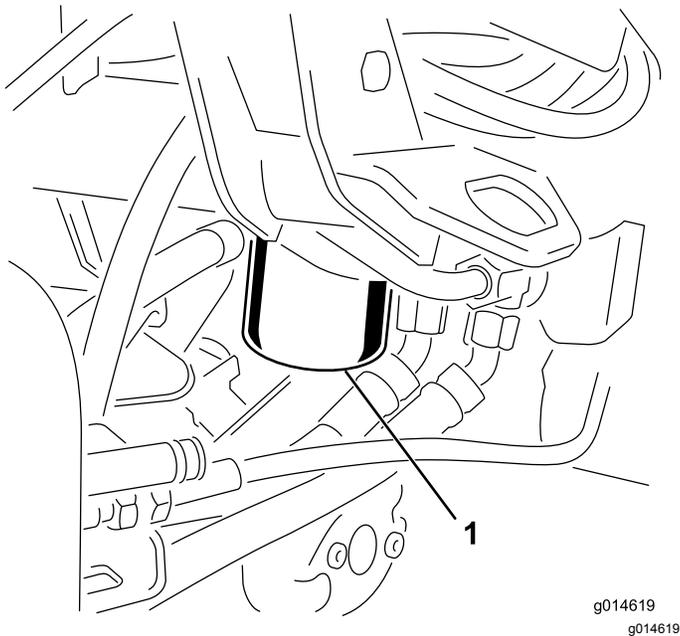

Figure 36
1. Clean the area around the filter mounting area (Figure 36). Place a drain pan under the filter and remove the filter.